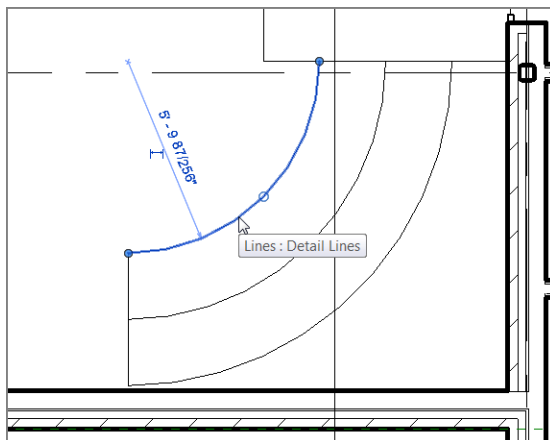

FIGURE 10.39: Selecting the smaller arc
1. Press Esc, and then select the smaller arc, as shown in Figure 10.39.